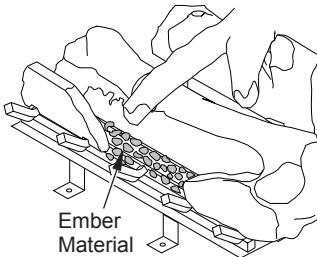

Figure 28 - Placing Ember Material on Burner
7. Pull ember material apart into pieces no larger than a dime. Place these pieces loosely and sparingly directly onto the exposed section of front burner and along space between burner and grate prongs (see Figure 28). This will create the glowing ember appearance as the flame touches the ember material. Do not block air slots by using too much ember material in one area. It is not necessary to use all of the ember material provided.